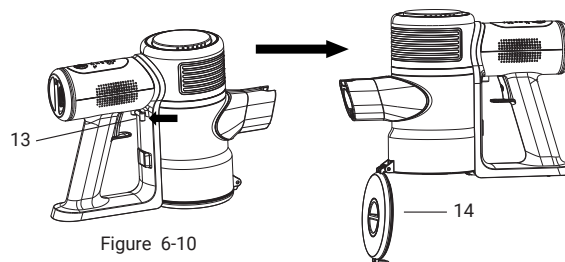

Figure 6-10
6.7 The one touch Easy-Clean Dust Cup makes up of the vacuum quick, easy and hygienic. See figure 6-10. (dust disposal: Hold the vacuum above a dust bin. Pull the Dust Release key No.13 with a finger so that the Dust Cup Cover No.14 pivots down and the dust inside the Dust Cup will fall out into the dust bin.)